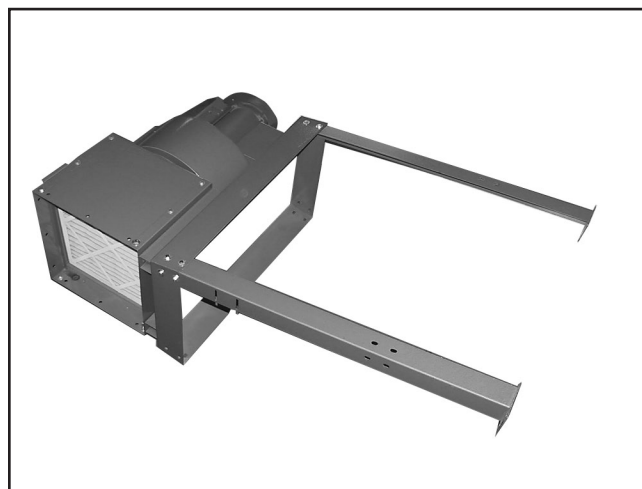

Figure 4. Legs installed onto exhaust fan.
2. Place a leg over opposite corners of the exhaust fan and fasten each leg with four $\frac{3}{8}$ "-16 x $\frac{3}{4}$ " hex bolts, eight flat washers and four hex nuts as shown in **Figure 4**.